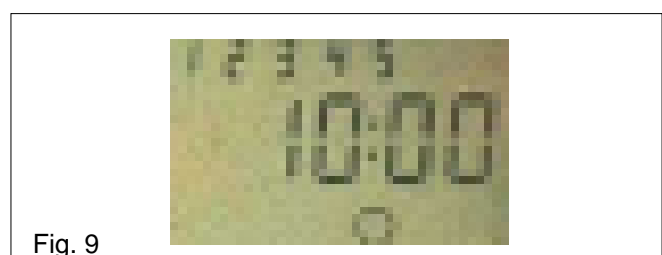

Fig. 9
- Press the Select button until the  symbol is shown (see fig. 9).